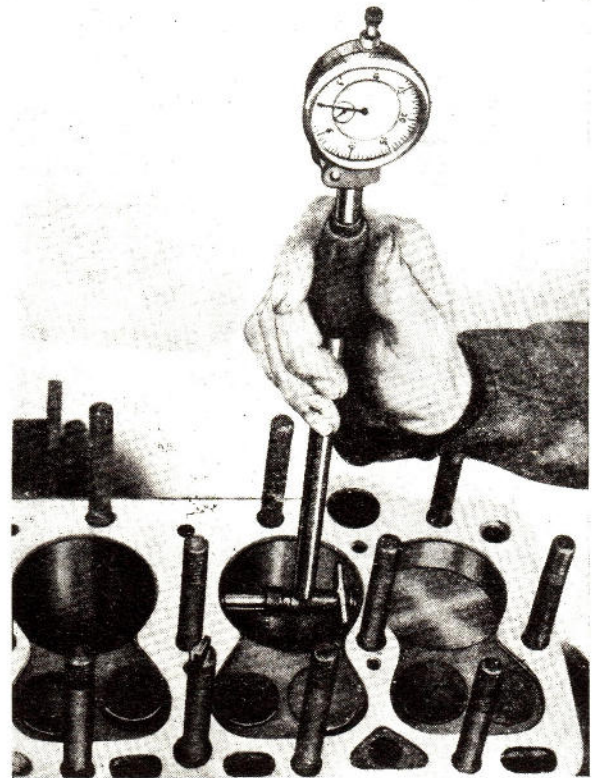

Fig. 27.
1. **Worn Pistons and Bores.** Bore wear should be measured with a Bore Gauge as shown in Fig. 27. Wear will be at a maximum at the top of the bores and should therefore be measured there.